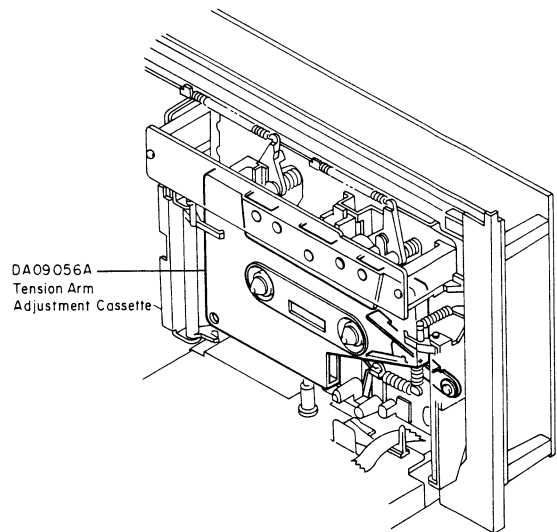
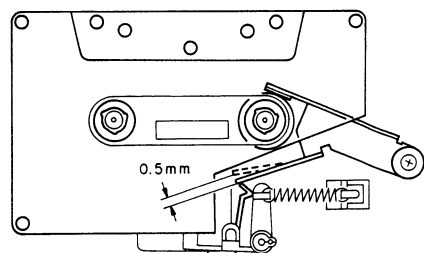
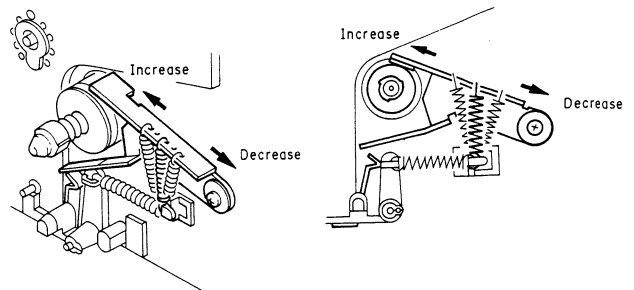

Fig. 2.12
Fig. 2.13
Fig. 2.14
Refer to Figs. 2.12 — 2.14.
- (1) Load a Tension Arm Adjustment Cassette (DA09056B) in the cassette deck referring to Fig. 2.12.
- (2) Set the cassette deck in Play mode.
- (3) Bend the Back Tension Arm with pliers so that the gap between the Cassette Holding Spring assembled on the Head Base Ass'y and the Back Tension Arm becomes 0.5 mm as shown in Fig. 2.13. Do not bend the top of the Back Tension Arm.
- (4) Load the Back Tension Gauge (DA09055B) in the cassette deck.
- (5) Set the cassette deck in Play mode and read the torque value of Back Tension Gauge. If the value is in a range of 5 g-cm to 9 g-cm, adjustment is not necessary. If not, change the installation point of the Back Tension Spring as shown in Fig. 2.14, and obtain the torque of 6 g-cm to 8 g-cm range.